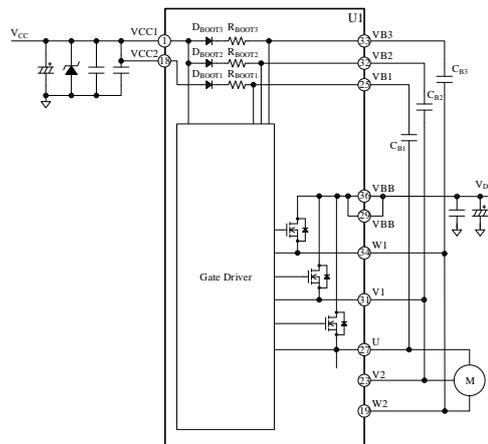

Figure 13-8. Bootstrap Circuit
As Figure 13-8 shows, a bootstrap diode, $D_{\text{BOOT}x}$, and a current-limiting resistor, $R_{\text{BOOT}x}$, are internally placed in series between the $V_{CC}x$ and V_{Bx} pins. Time constant for the charging time of C_{Bx} , τ , can be computed by Equation (4):